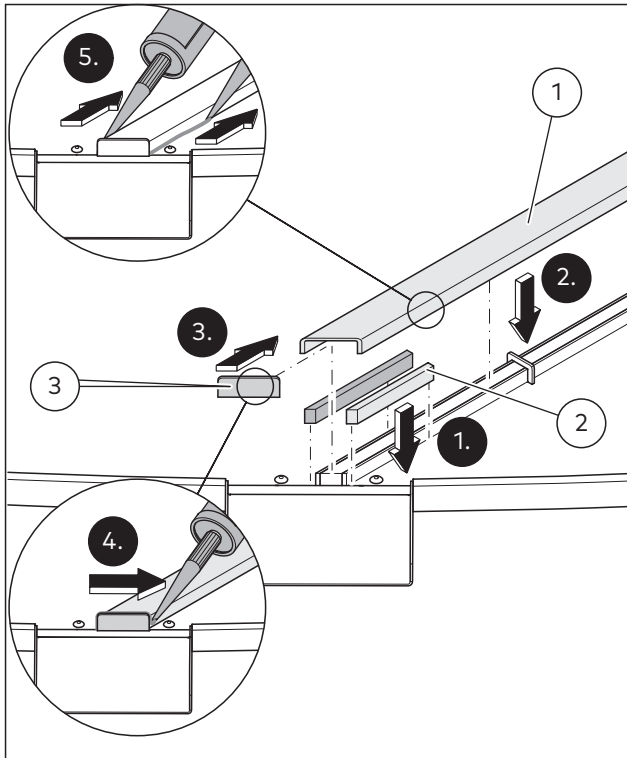

Fig. 129 Mounting the U profiles
1. Apply joint sealing tape (Fig. 129/2) at the ends of the seam near the water drains.
2. Place the U profiles (Fig. 129/1) on top of the seams between the cover parts.
3. Stick the end pieces (Fig. 129/3) onto the U profile.